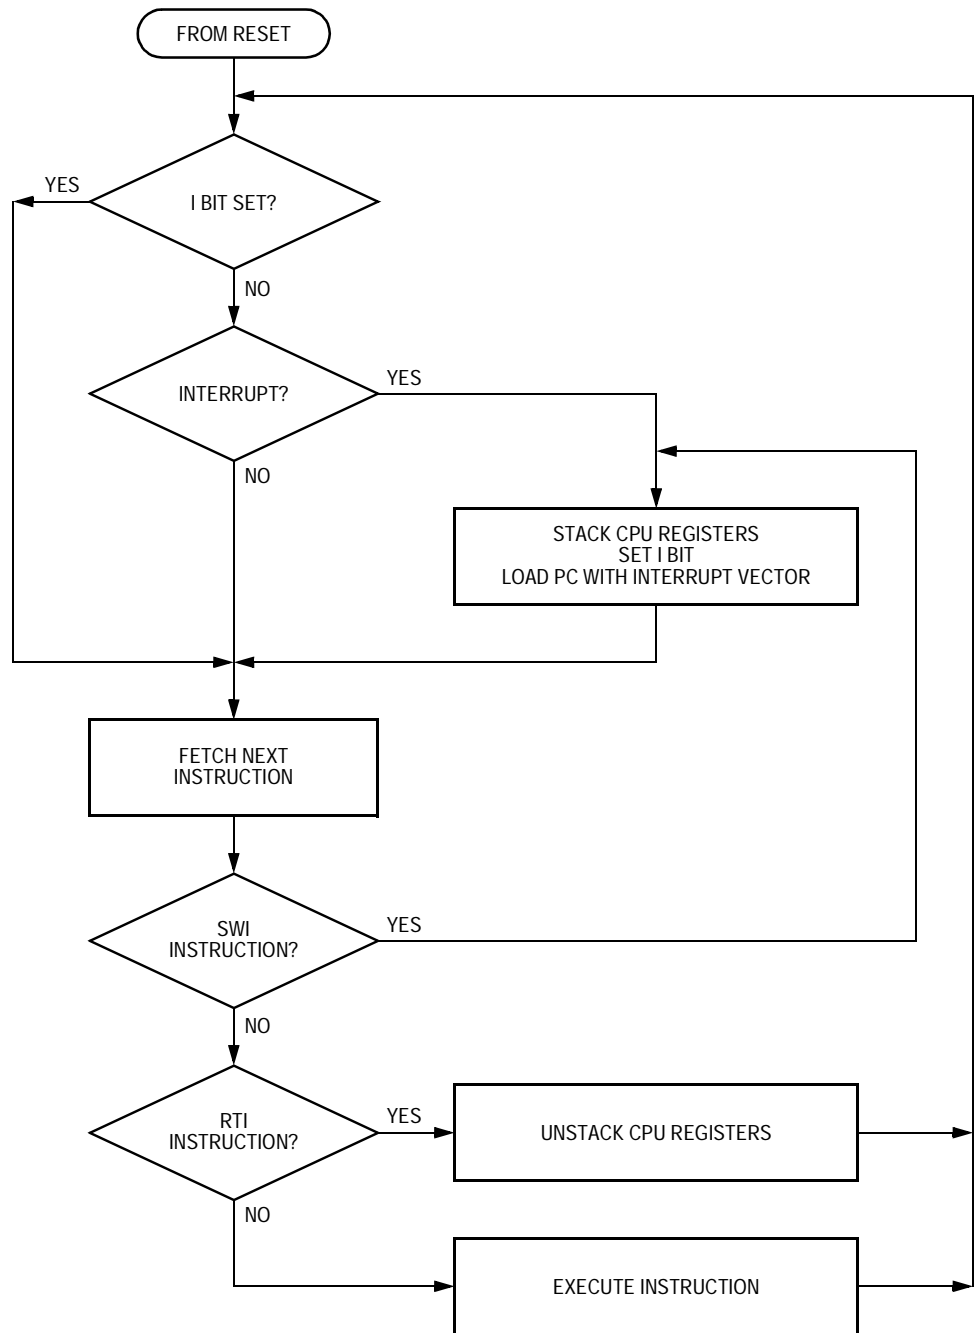

Figure 16-3. IRQ Interrupt Flowchart
NOTE: *The interrupt mask (I) in the condition code register (CCR) masks all interrupt requests, including external interrupt requests. See **Figure 16-3**.*